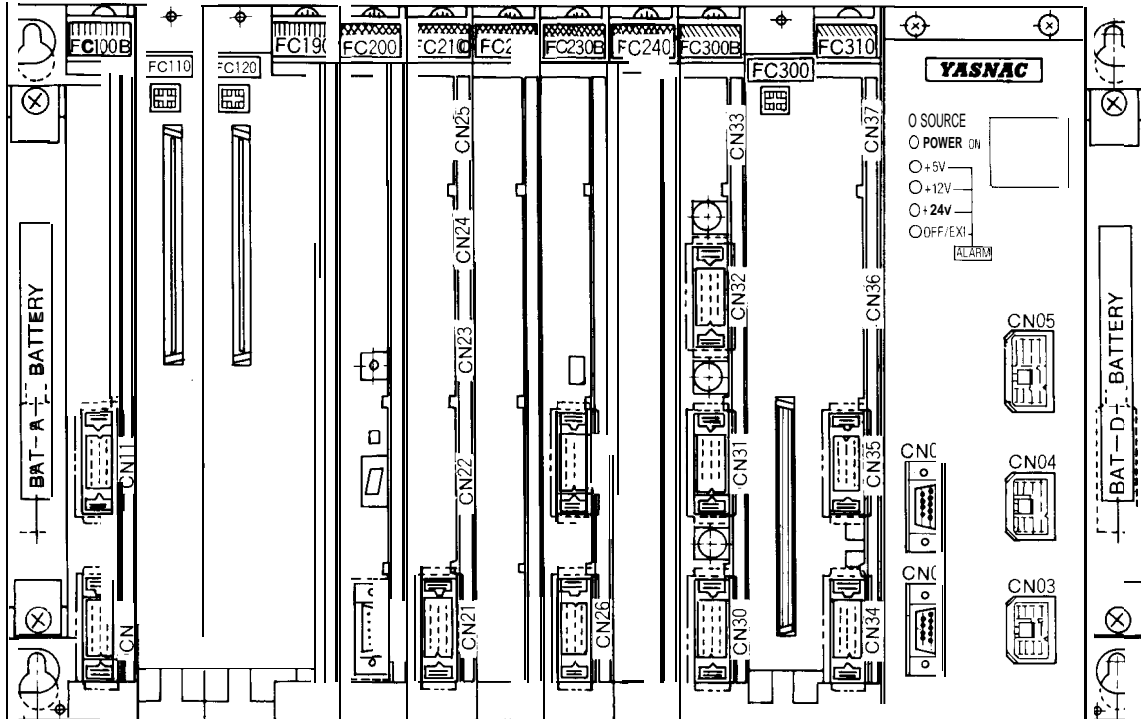

**Fig. 5.2 Mounting of Servo Unit
- (2) Mount the servo unit so as to allow easy checking, removal and reinstalling during maintenance work.
- (3) The servo unit generates some amount of heat. Allow for some space in the upper and lower sides when mounting other units and components so that heat will not saturate the inside the unit. (See Fig. 5.2.)